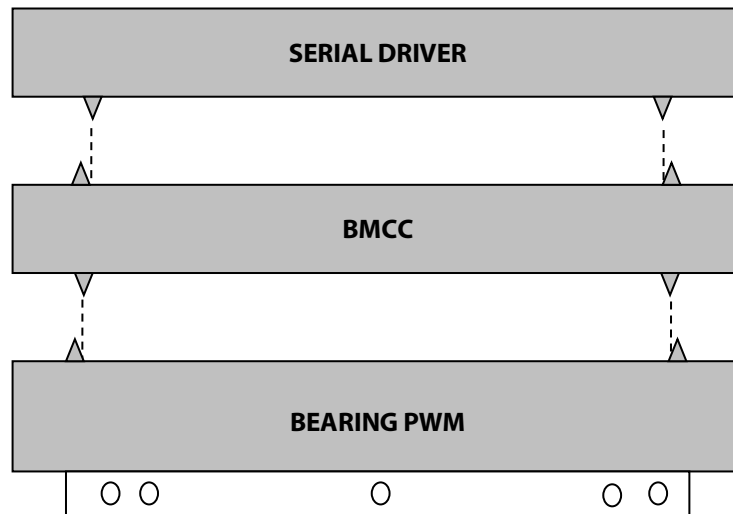

Figure 3 – Module Alignment
11. Carefully, insert the Serial Driver back into its slot. Align the serial driver module's two lower guide rails so that they are aligned on the inside of the BMCC module's two upper guide rails. See Figure 3 (Module Alignment).